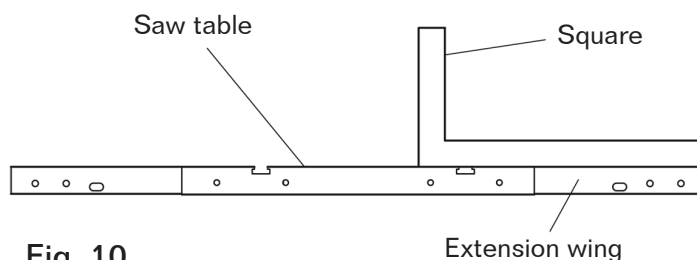

Fig. 10
- Check extension table on opposite side of blade. Repeat the above procedure until it reaches the Squares. (Fig.10)